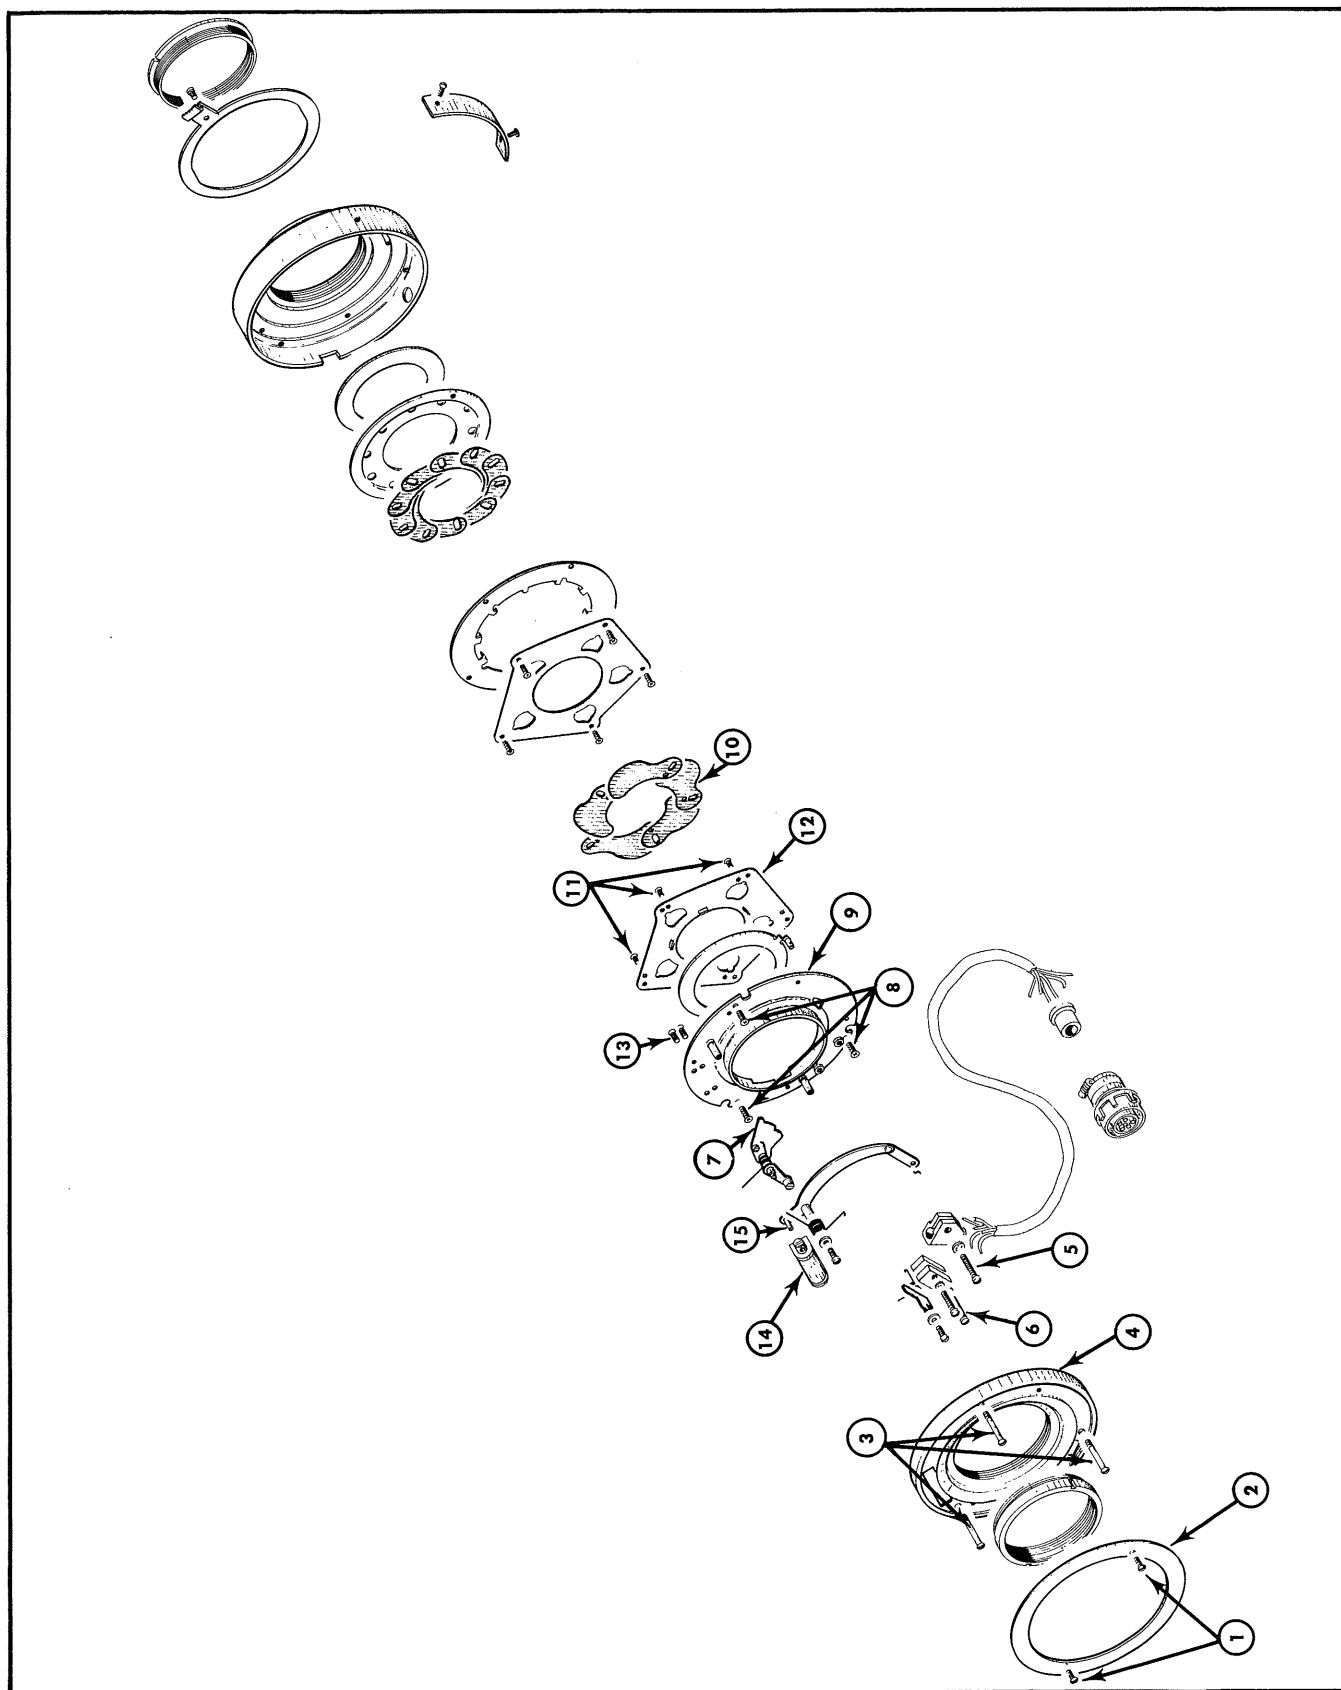

Fig. 6-2. Exploded illustration of the Electric Shutter.
- Remove two small screws from the identification plate on the shutter and remove the identification plate (see Fig. 6-2 items 1 and 2).
- Remove the three screws from the shutter cover and remove the shutter cover (see Fig. 6-2 items 3 and 4).
- Remove the cable clamp screw and microswitch clamp screws (see Fig. 6-2 items 5 and 6). Remove the piece of electrical tape.
- Remove the Press Focus lever (see Fig. 6-2 item 7).
- Remove three screws from the master plate and lift the master plate out of the shutter case (see Fig. 6-2, items 8 and 9). The shutter blades (Fig. 6-2, item 10) will normally fall out of position.
- Remove five screws from the ring plate on the rear of the master plate and remove the ring plate (see Fig. 6-2 items 11 and 12).
- Remove the three screws (from the rear of the master plate) which hold the solenoid in place, see Fig. 6-2, item 13.
- Carefully lift the solenoid from the front of the master plate, taking care not to bend the main lever pin (see Fig. 6-2 items 14 and 15).